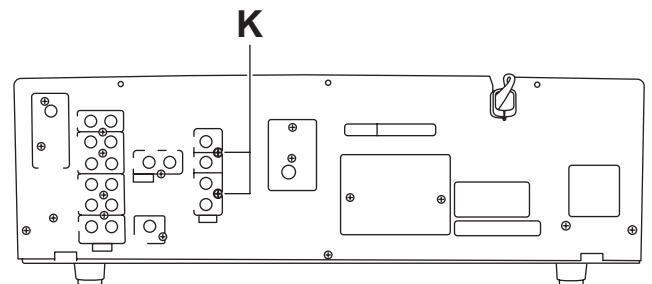

Fig.8
- (1) Remove the two screws **F** attaching the tuner board.
- (2) Disconnect the card wire from **CN411** of main board.
- (3) Remove the three screws **G** attaching the digital board.
- (4) Disconnect the connector **CN481** and **CN482** of main board.
- (5) Remove the four screws **H** attaching the main board and remove the one screw **J** attaching the ground wire to front board.
- (6) Disconnect the connector **CN421** of main board.
- (7) Remove the two screws **K** attaching the subwoofer board.
- (8) Disconnect the connector **CN431** of main board.
- (9) Remove the three screws **L** attaching the video board (for European model, two screws **L** see Fig. 8)
- (10) Remove the two screws **M** attaching the speaker terminal board.
- (11) Remove the one screw **N** attaching the fuse board.
- (12) Remove the three screws **P** attaching the rear panel.